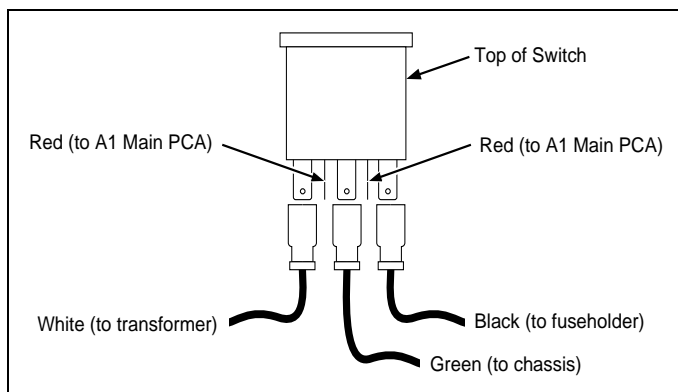

Figure 3-3. Power Input Connections at the Power Switch
5. Reconnect the white wire that leads to the transformer at the input connector [L]. Refer to Figure 3-3 as required.
Make sure you correctly connect the switch and power terminals at the power switch! There is a risk of electric shock if the connection is incorrect. Refer to Figure 3-3 for the input power terminal connections.
2. Reconnect the five terminals to the power switch/input connector [Q]. Refer to Figure 3-3 as required. Note that either red wire can be connected to either switch terminal. The power input connections must be exactly as shown in Figure 3-3.
4. Thread the two red wires through the pca and connect to the power switch. Either red wire can be connected to either switch terminal. Do not accidentally connect the red wires to any input power terminal! (If you removed the power input terminals, reconnect them as shown in Figure 3-3.)